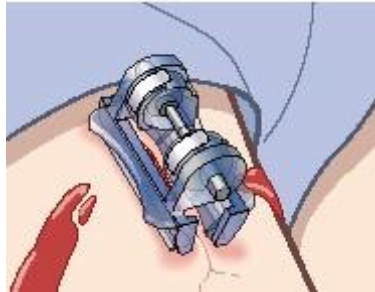

FIGURE 4
8. Ensure the entire wound is sealed and bleeding stops (**See Fig. 4**).